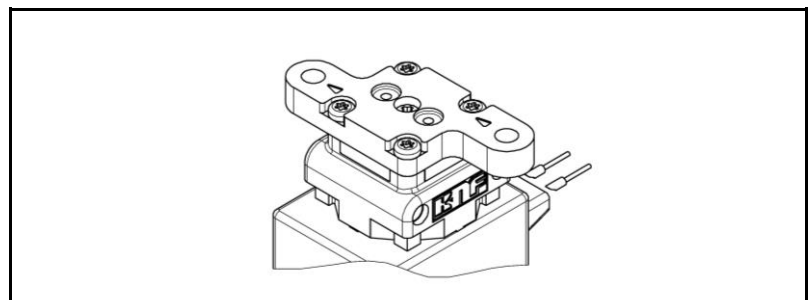

Fig. 11: Pump head with flange-mounted connection
- Flange fixture with O-ring (Fig. 11)